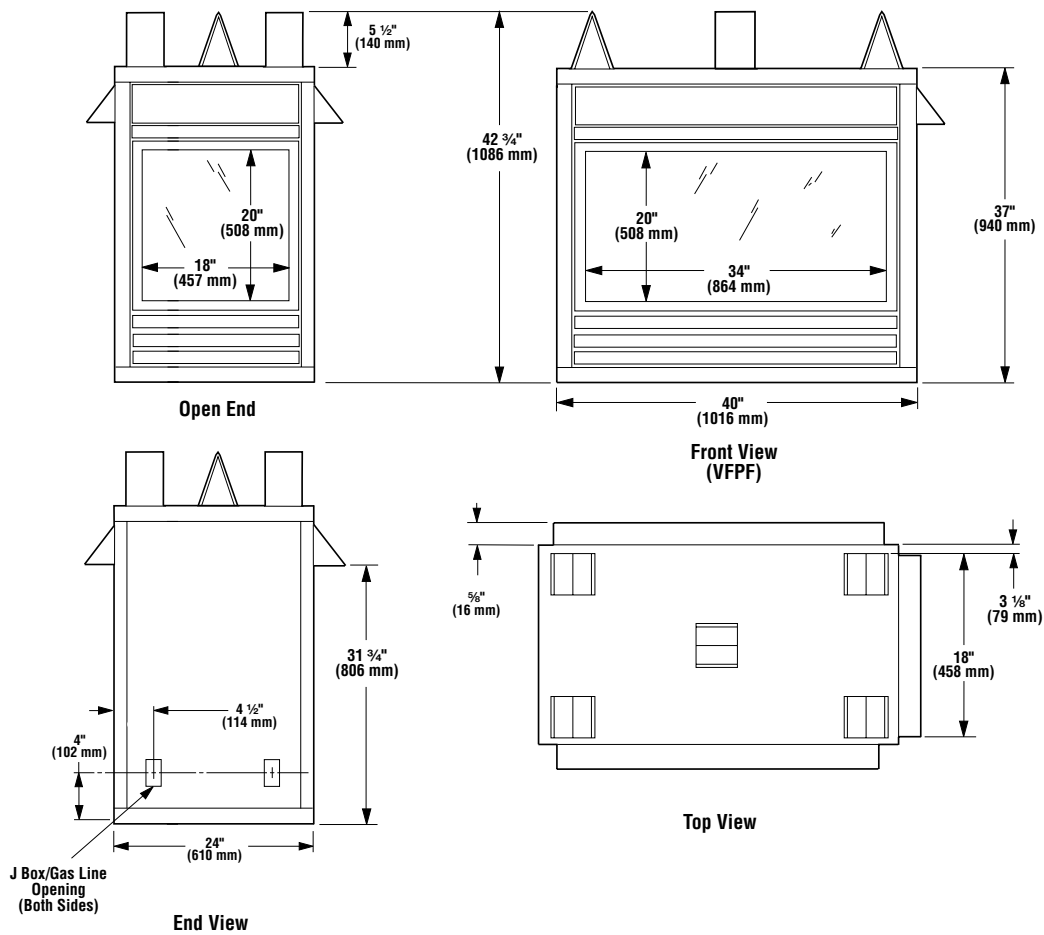

Figure 6
Step 2. Route a 1/2" (13 mm) gas line along the left or right side framing (Figure 6). The primary method for the SF is from the right end (when viewed from the control side) straight in to the valve. ST's may be routed as the PF's are, from the left using an assembly composed of a 3/8" street elbow, a 3/8" elbow and 3/8" 6" long nipple.